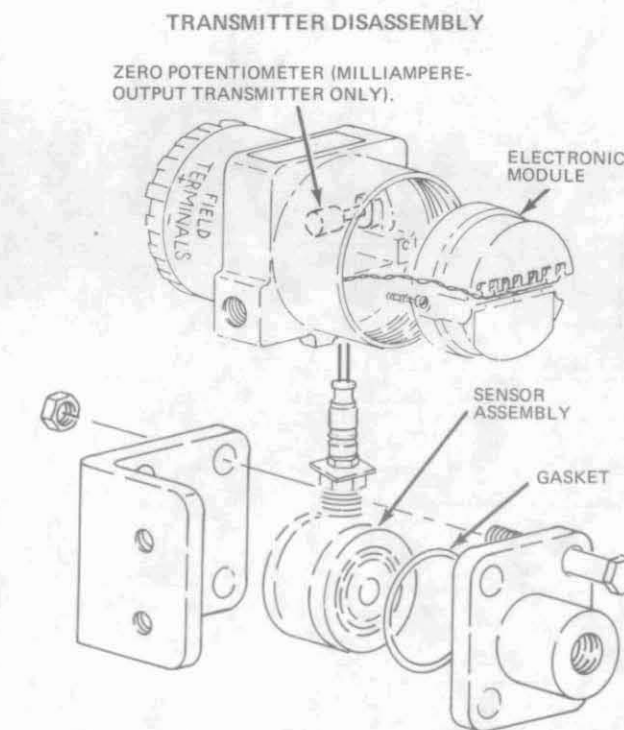

Figure 18
The disassembly of the transmitter is usually limited to that shown in Figure 18. The electronics module, the sensor assembly, and the zero potentiometer (milliampere-output transmitter only) are the only parts that may require replacement in normal operation.
2. Use formula in Figure 18 to calculate BAL TEST voltage.